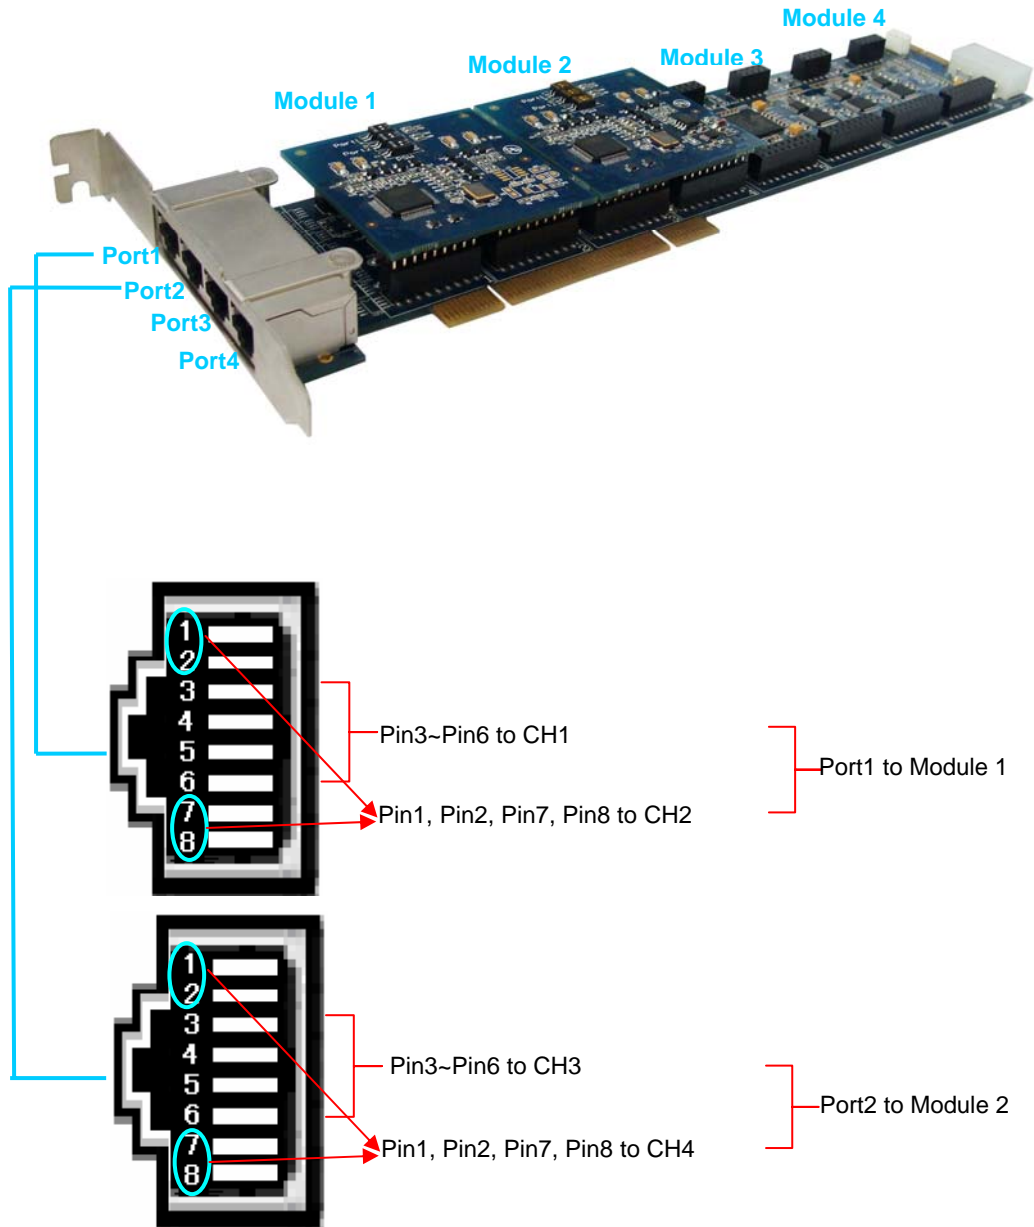

Figure 2-9 Relations among RJ45 interface, Channel and Module
Figure 2-9 below illustrates the corresponding relations among the RJ45 interfaces on the motherboard, the channels and the modules.
- 1) Each RJ45 interface is only related to modules on the corresponding position. As shown in Figure 2-9 above, the interface Port1 only corresponds to Module1. It doesn't matter that what kind of module (NT200 or TE200) Module1 is. Likewise, Port2 is related to Module2 and the like.